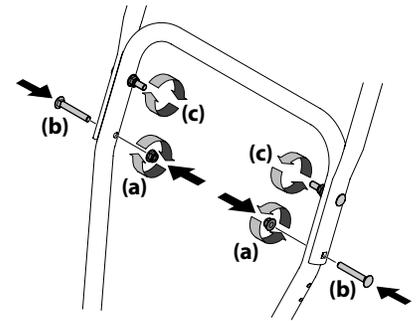

Figure 2-5
- Attach the two carriage screws (b) and nuts (a) removed in Step 2. Finish securing the handle by tightening the top two nuts (c) loosened in Step 2. See Figure 2-5 or Figure 2-6 for units with side supports.